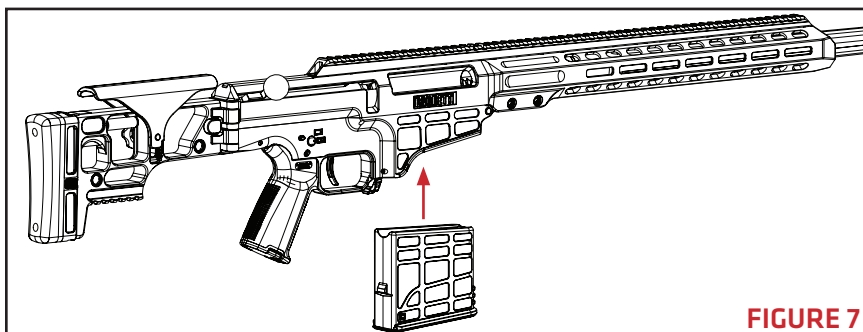

FIGURE 7
4. Insert the loaded magazine into the rifle (**FIGURE 7**). The magazine inserts into the rifle straight in without hinging or tilting.